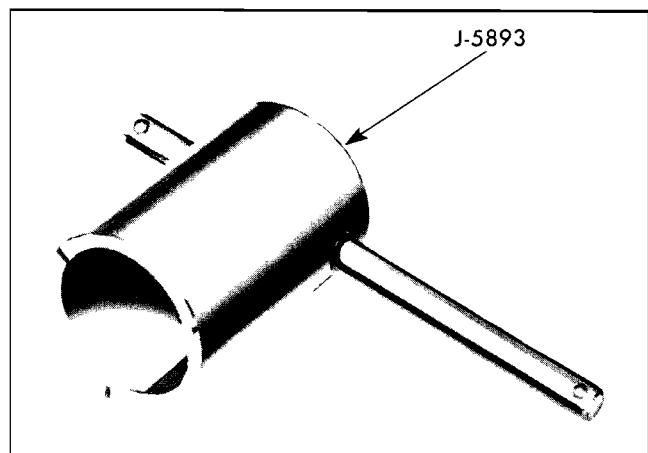

Fig. 11-48 Ignition Switch Ferrule Spanner
2. Remove ignition switch ferrule by unscrewing with special spanner J-5893 (Fig. 11-48).